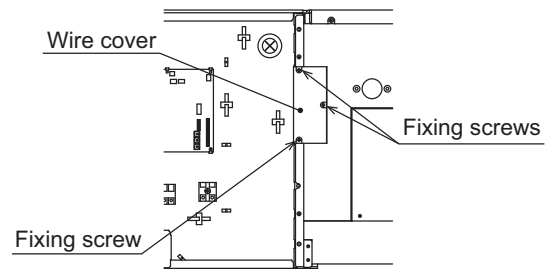

Fig.3
3. Remove the fixing screws shown in Fig. 3, and remove the wire cover.